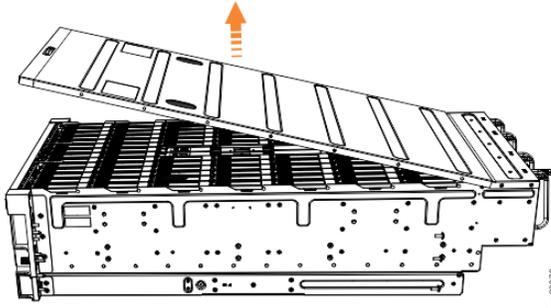

Figure 133. Removing the 5U expansion enclosure cover
4. Carefully lift the cover up, as shown in Figure 133 on page 197.